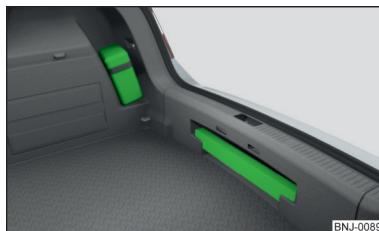
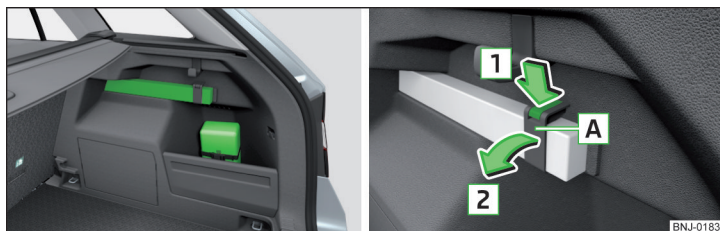

Fig. 154
Fig. 155 First-aid kit and warning triangle - loosen version 2 / attachment strap
The first-aid box can be attached by a strap to the right-hand side of the boot » Fig. 154 or » Fig. 155.
The warning triangle can be stored in the rear wall trim panel » Fig. 154.
The warning triangle can be placed in the panel at the right hand side of the luggage compartment and secured to the fastening strap » Fig. 155.
- Press the latch on the connector in the direction of arrow **1** » Fig. 155.